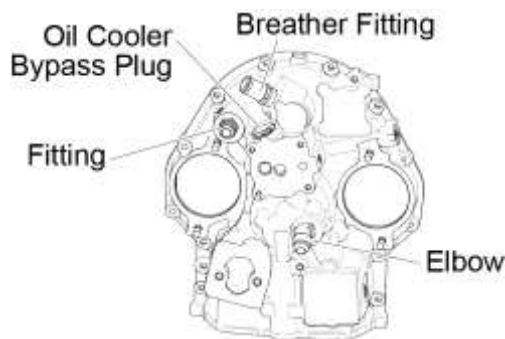

Figure 7
- A. Examine plugs and fittings (Figures 7 and 8) for damage. Replace any damaged plug or fitting.
- B. Install fittings (Figure 7) in the accessory housing.